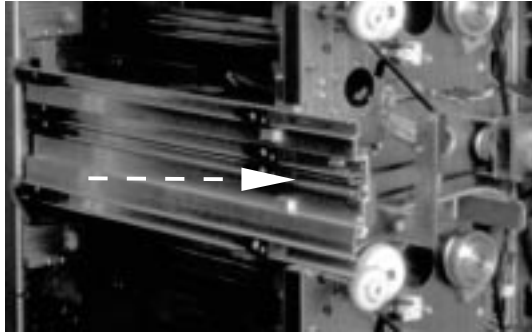

Figure 241. Removing a Corona Assembly
- 11 Remove each corona assembly by sliding it carefully out of the guide bars, as shown in Figure 241 on page 321.